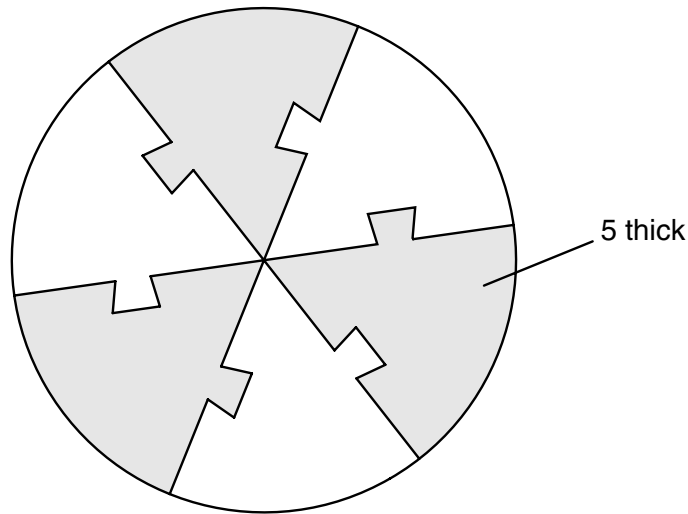

Fig. 6
- 12 Fig. 6 shows an idea for a puzzle that is made up of 6 interlocking pieces that when joined together form a disc.